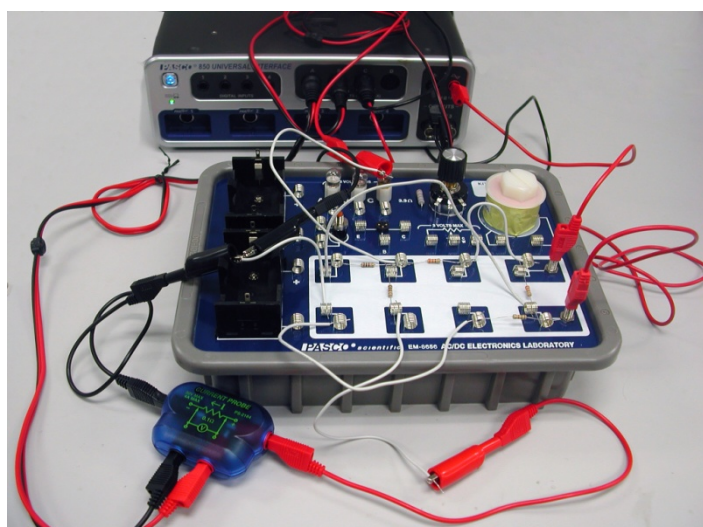

Figure 9: Connecting the Voltage Probes
7. Plug Voltage sensors into Channels B and C on the 850. The black leads from both are attached to the black side of Output 1 on the 850. The red side of Output 1 is attached to the upper banana input (V_o) on the circuit board as shown in Figure 9. The red lead from Analog input C is attached to the lower banana input (V_c) on the circuit board. The red lead from Analog input B is attached to the white wire coming from the junction point A between the three resistors. It will measure V_a .